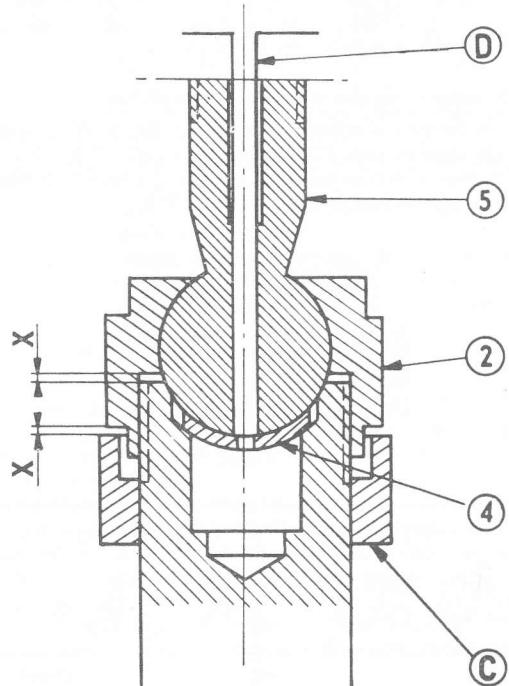

FIG 9:11 Adjusting the rack ball head assembly
- 3 Refer to **FIG 9:13** and refit in the following order the ball bolt, nylon half bearing shell, four Belleville washers and the ball head cap.
Key to Fig 9:11 2 Ball head housing 4 Ball head shell